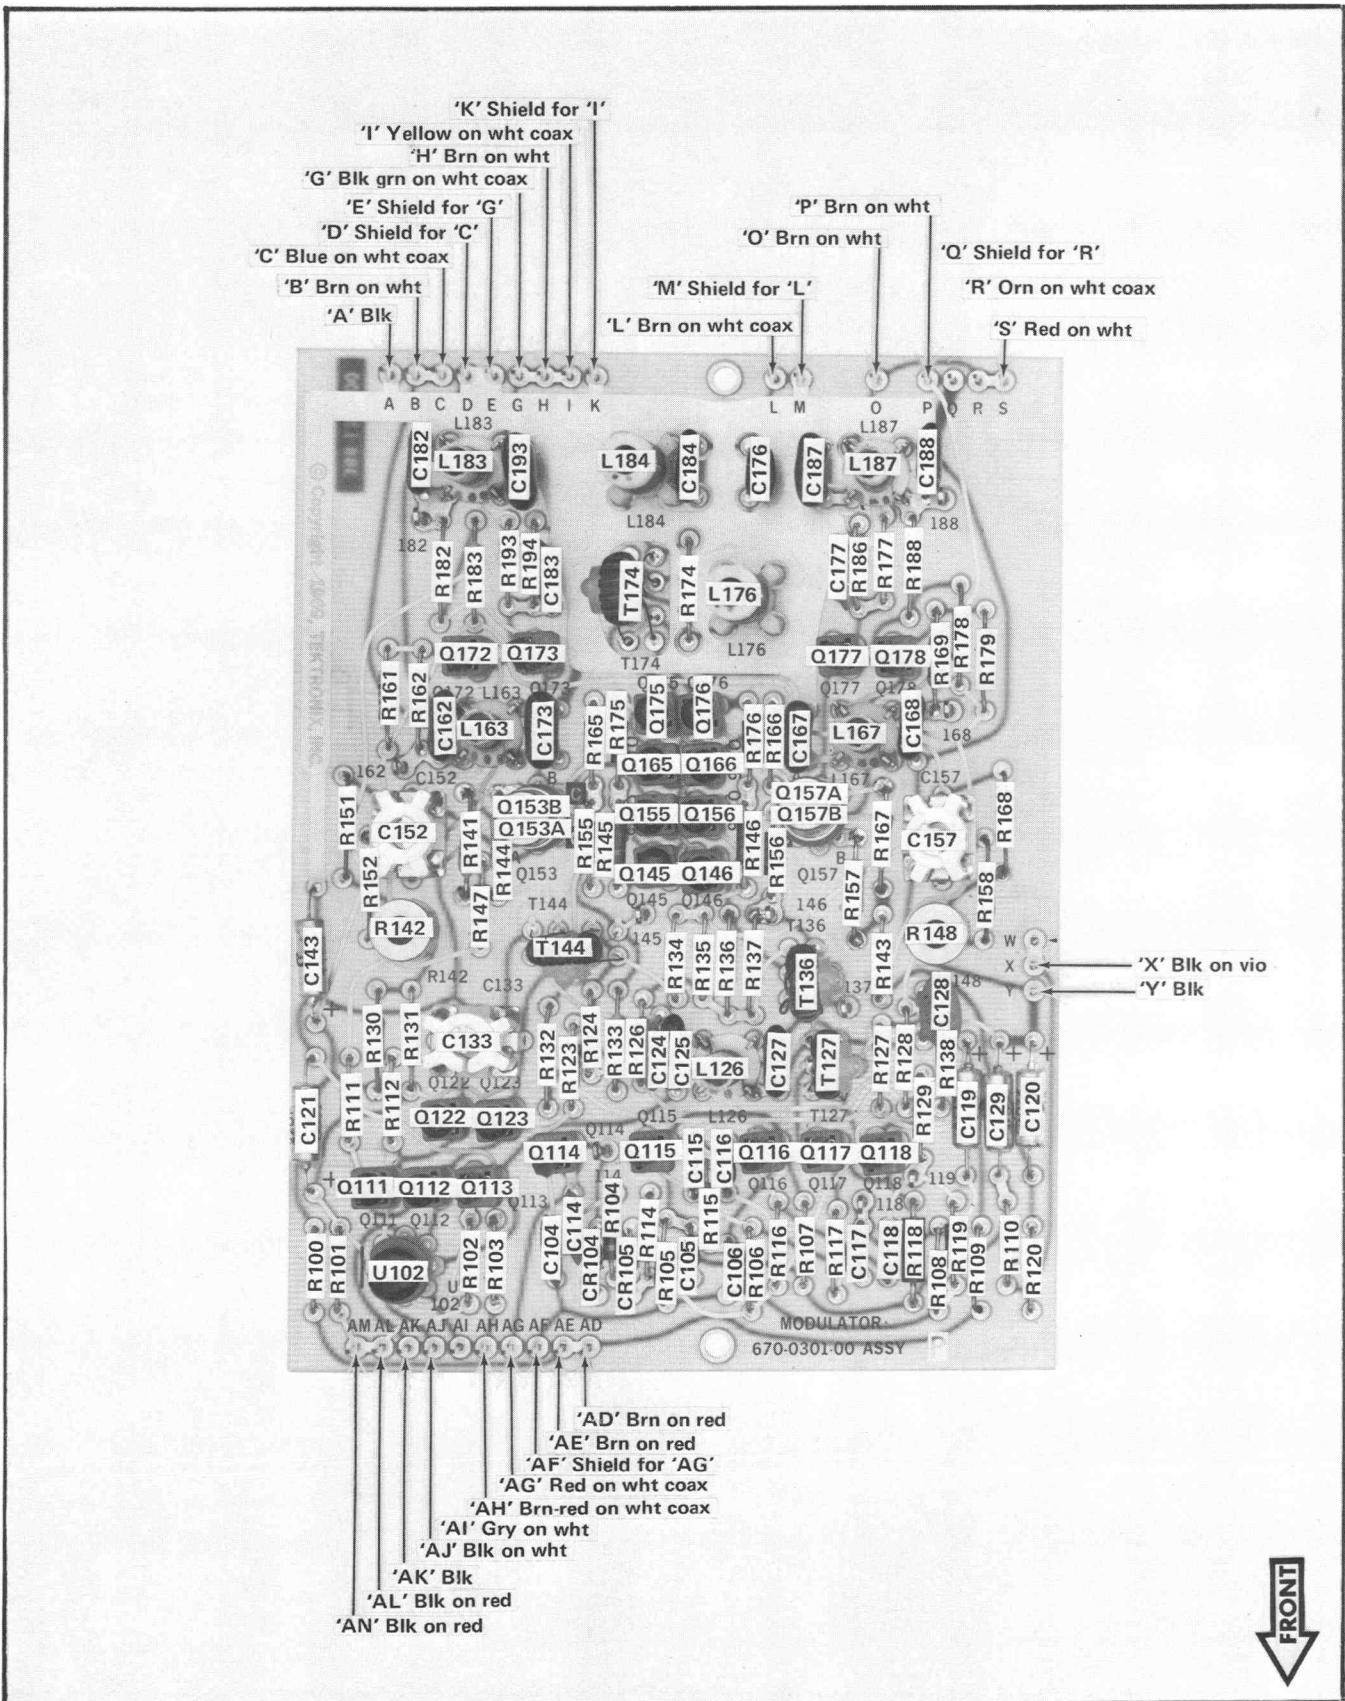

Fig. 4-7. Modulator board; component identification and wire color code.
6. Check Circuit Board Interconnections. After the trouble has been isolated to a particular area or circuit, check the pin connectors on the circuit board for correct connection. Figs. 4-7 through 4-17 show the correct connections for each board.